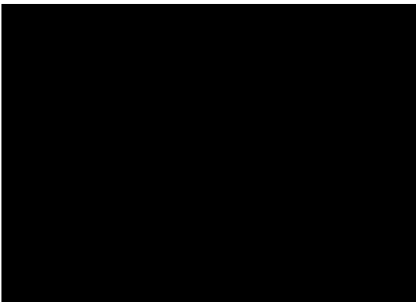

Figure 3.
- To install the Klip-lock to the roof of the roof along the tendon. Follow the design until all of them are complete, as shown in figure 3.